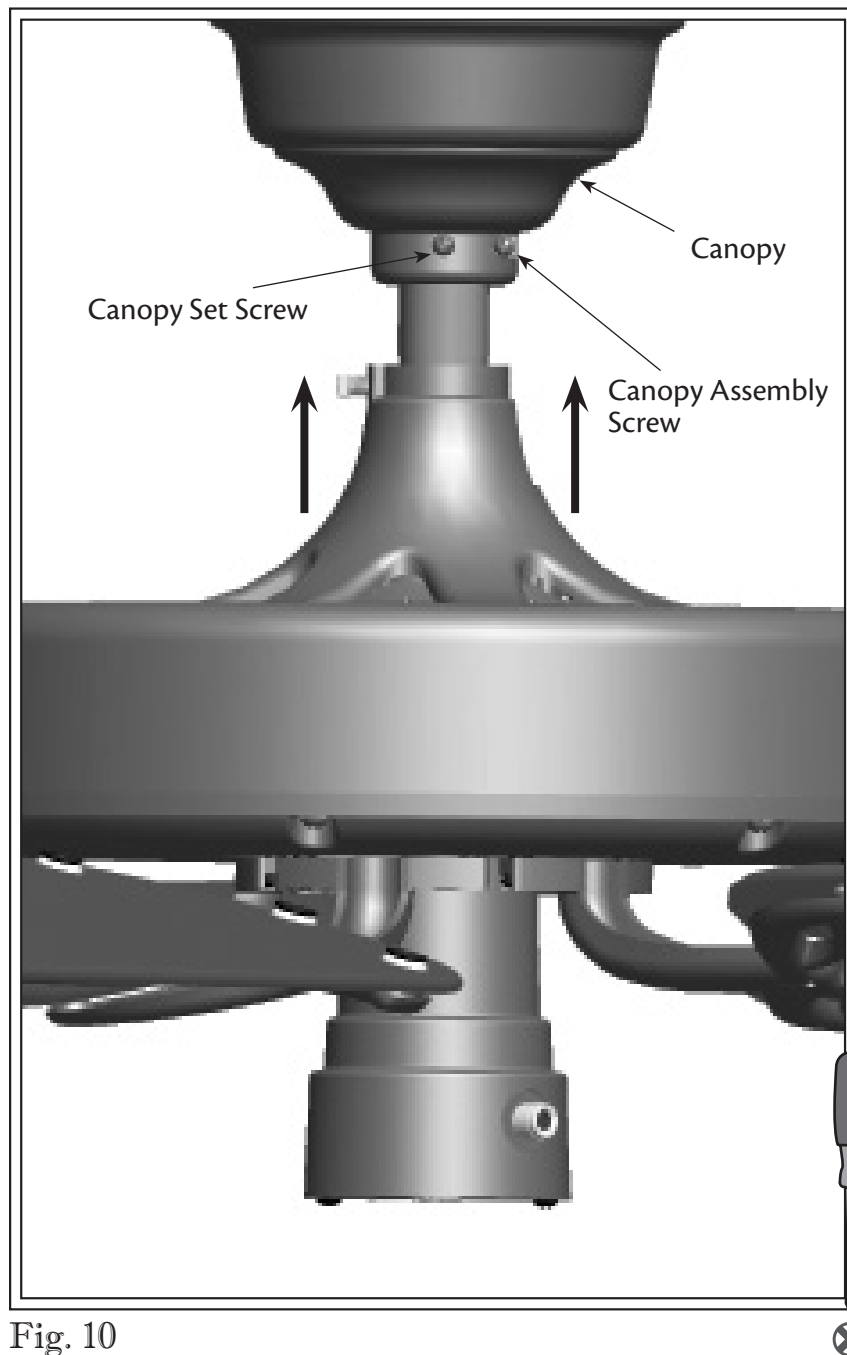

Fig. 10
3. Tighten the canopy assembly screws (see Fig. 10) using a #2 Phillips-head screwdriver.
4. Tighten the canopy set screw (see Fig. 10) using a #1 Phillips-head screwdriver.